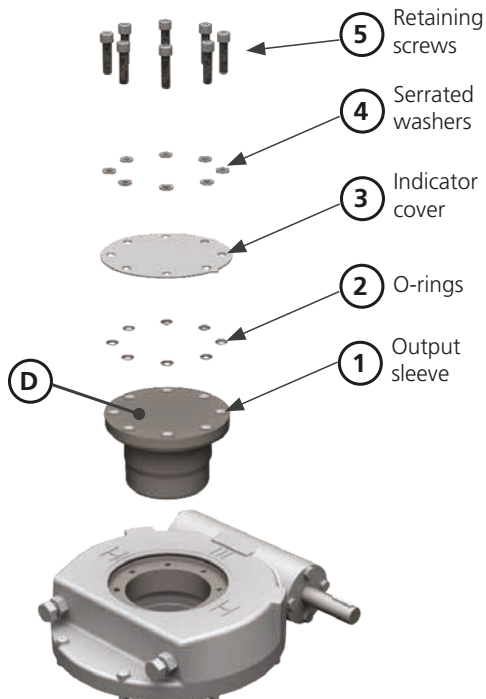

Figure 1 – Output sleeve arrangement
All gearboxes except for IW12 to IW16 and HOW13 have a removable output sleeve (item 1, Figure 1). Unless specifically requested at the ordering stage, the output sleeve will be supplied blank and must be machined to suit the valve shaft.
Figure 1 shows the arrangement of the output sleeve in the gearbox. See Figure 2 for removing the output sleeve without damaging the sealing faces.
Referring to the item numbers in Figure 1, the output sleeve can be easily removed from the top of the gearbox by first removing the retaining screws (5). The screws are either serrated under their heads or are fitted with serrated washers (4). Then remove the indicator/cover plate (3).
Referring to Figure 1, O-rings (2) are used to seal the indicator plate, output sleeve and retaining screws. Upon final installation on the valve, screws (5) must be tightened to the correct torque figures as shown on the label on the underside of the indicator/cover plate.
Before re-assembly, clean and de-grease the top face of the output sleeve, underside of the indicator/cover plate, and the socket head cap screws. Make a note of the tightening torque required for the output sleeve screws on the label on the underside of the indicator plate. Insert the screws and washers into the holes in the indicator/cover plate, as per Figure 1.
As detailed in Figure 1 and Figure 2, it is recommended that silicon sealant is applied to face 'D' to seal the indicator/cover plate to the output sleeve, taking care not to apply sealant to the O-rings (2) or the sealing faces with the O-rings. For acceptable sealants, see Table 4 on page 16.